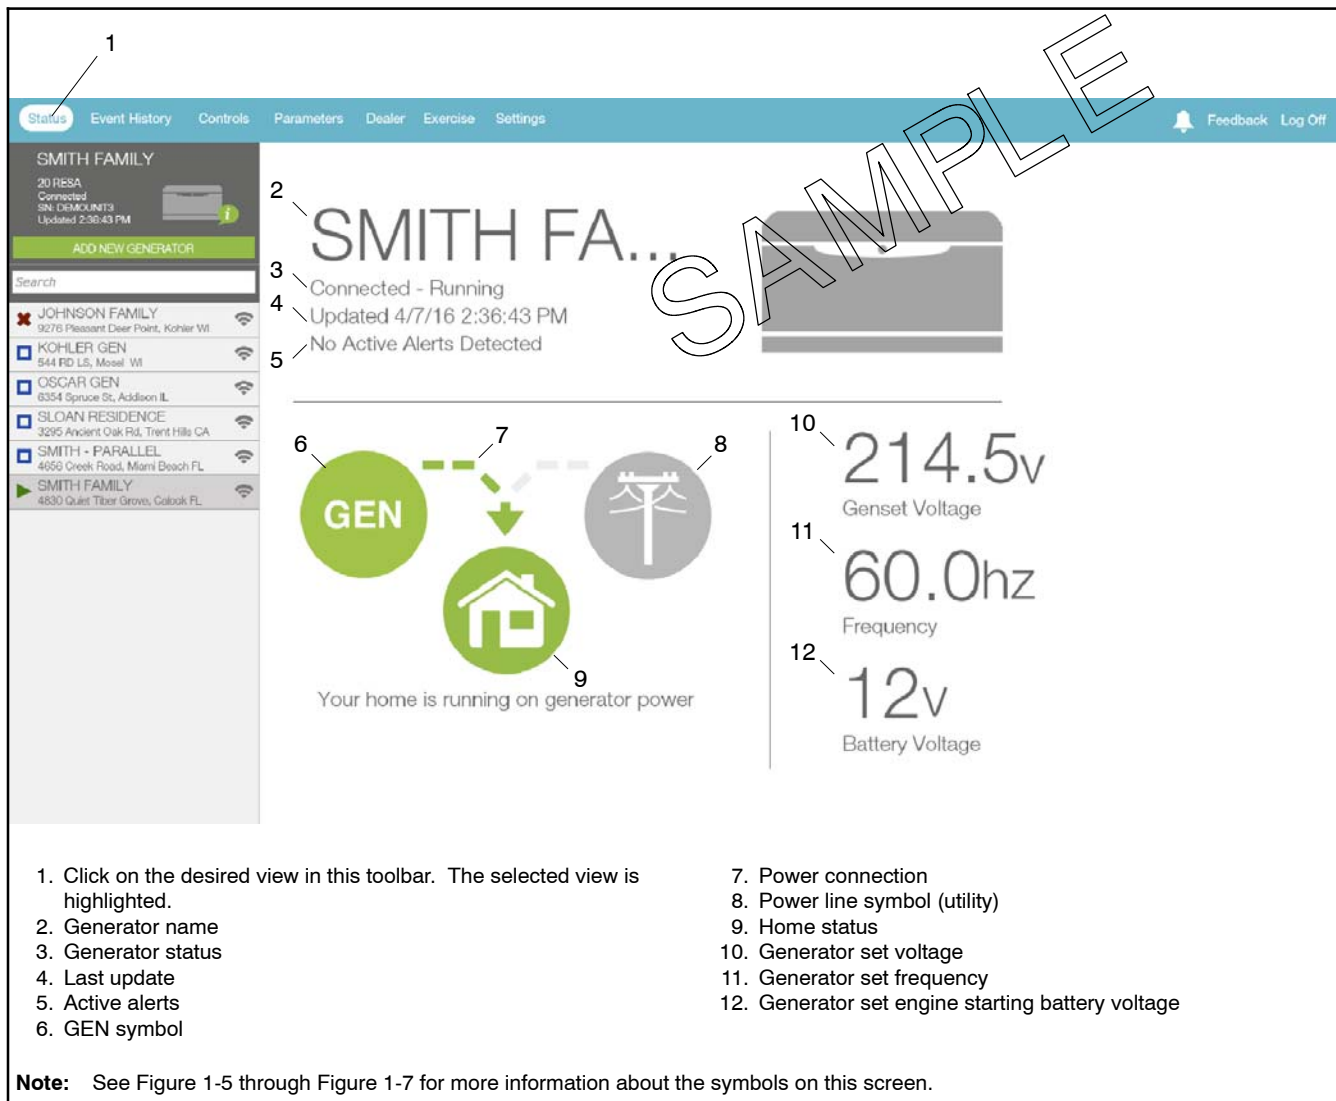

Figure 1-4 Power System Status
To select a view, click on the desired view in the toolbar near the top of the screen. The selected view is highlighted in the toolbar. See Figure 1-4.
The status screen is shown in Figure 1-4.
* Item numbers in parentheses () refer to Figure 1-4.